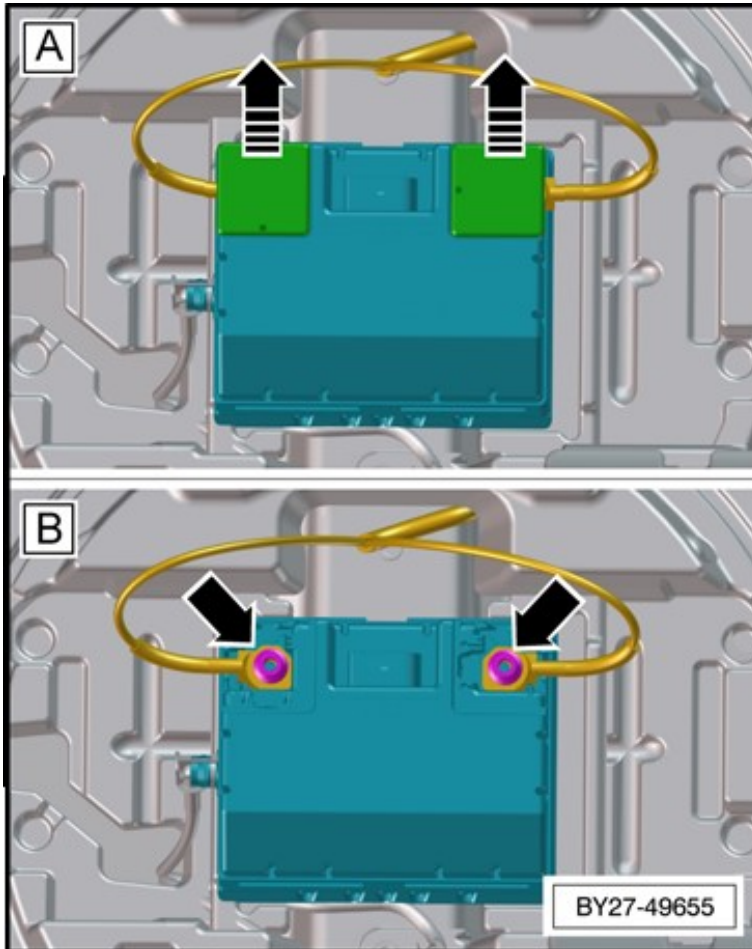

Figure 1
2) Referring to Rep.Gr 27 - Check the security of the super capacitor positive and negative terminals (Figure 1) as follows:
- Remove the caps (A) from the terminals
- Check the security of the positive and negative terminals (B) are as described within Rep.Gr 27